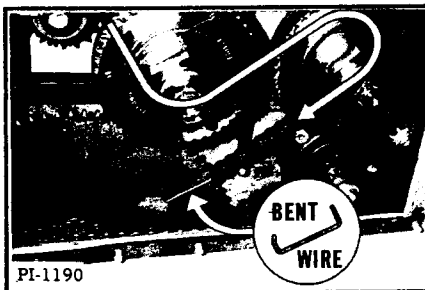

Fig. 95 Installing Intermediate Chain
6. Install the intermediate chain (Figure 95). Use a length of bent wire to pull the chain around the lower jackshaft sprocket.